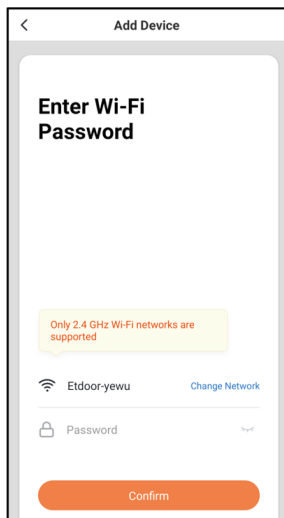
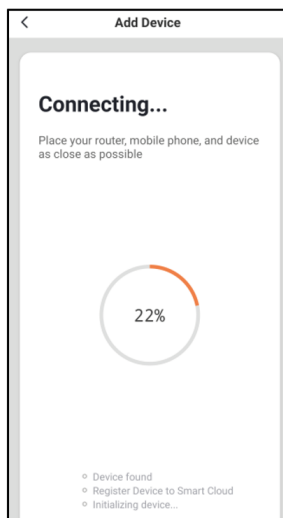
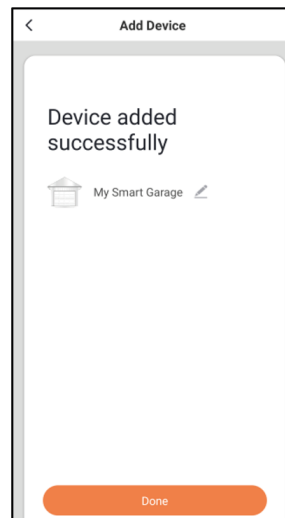

Fig.15
Fig.16
Fig.17
6. Click the "Confirm" button (see FIG 15) in the app. The opener will then connect to your network (see FIG 16). This may take up to 2 minutes. After connecting successfully, click "Done" (see FIG 17). Only one account can be linked to the opener.